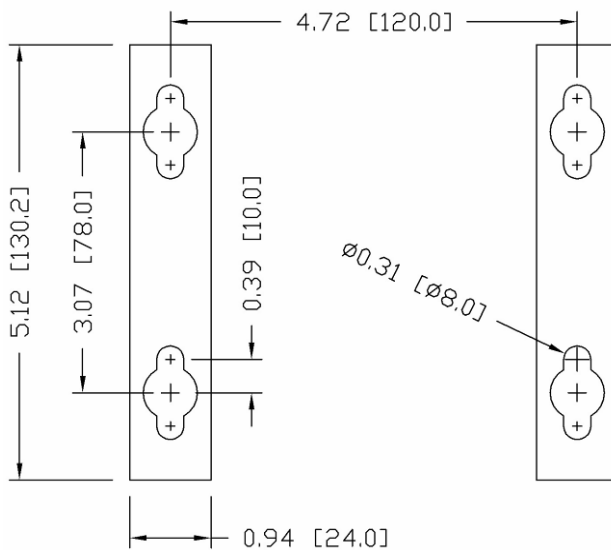

Figure 2-23: Mounting Hole Pattern
3. Mark the position of the mounting holes on the vertical surface per the dimensions shown in Figure 2-23.